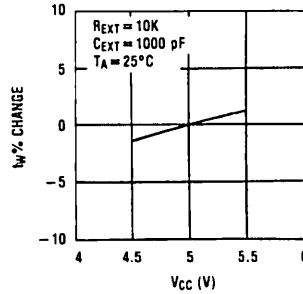
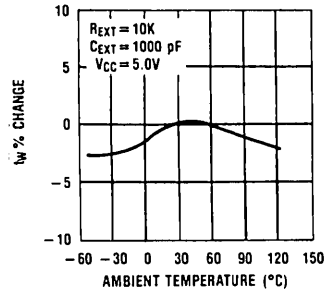

FIGURE 5
FIGURE 6
- Output pulse width variation versus V_{CC} and operation temperatures: Figure 5 depicts the relationship between pulse width variation versus V_{CC} ; and Figure 6 depicts pulse width variation versus temperatures.